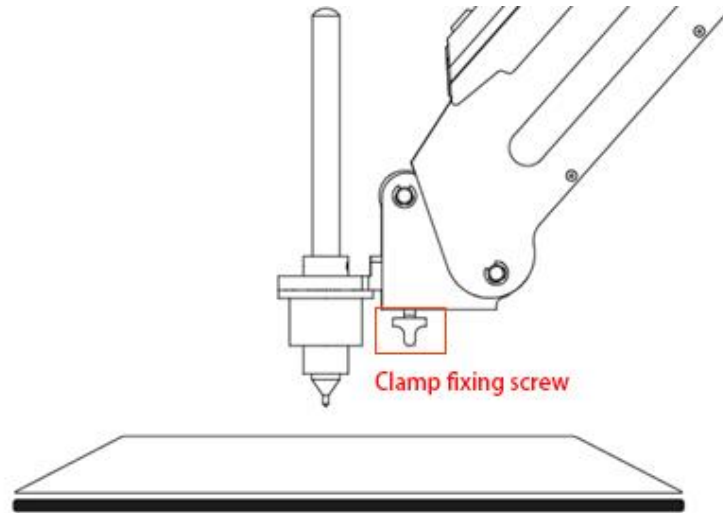

Figure 5.21 Install a writing and drawing kit
- Step 2** Fasten the writing and drawing kit to the end of Dobot Magician with a clamp fixing screw, as shown in Figure 5.21.